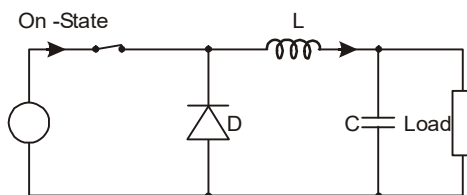

Fig. 5.4: On-state
The two circuit configurations of a buck converter *i.e.* On-state, when the switch is closed, and Off-state, when the switch is open are shown in Fig. 5.4 and 5.5 respectively. The arrows indicate the direction of flow of conventional current.
- When at first instant the switch is closed (on-state), as shown in Fig. 5.4, the current will begin to increase, and the inductor will produce an opposing voltage across its terminals in response to the changing current. This voltage drop counteracts the voltage of the source and therefore reduces the net voltage across the load. As the rate of change of current decreases, the voltage across the inductor also decreases, this increases the voltage across the load. During this time, the inductor stores energy in the form of a magnetic field.
- When the switch is closed, as shown in Fig. 5.4, the voltage across the inductor is $V_L = V_i - V_o$. The current through the inductor rises linearly (in approximation, so long as the voltage drop is almost constant). At this instant, the diode is reverse-biased by the voltage source V , hence, no current flows through it;